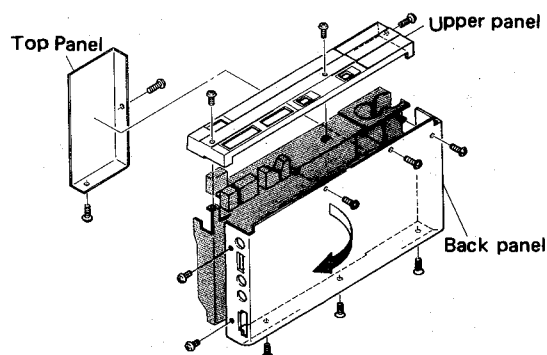

Fig. 1
Remove the eight screws and take off the back panel cautiously as shown by the arrow. Since the sockets and the volume knobs are easily caught by the back panel, (See Figure 1.)
Remove the three screws to take off the upper panel. (See Figure 1.)
(3) Cassette lid
- * It is easier to detach the top panel when removing and refitting the cassette lid. But do not force the top panel as it is fixed with double-sided tape. (See Figure 1.)